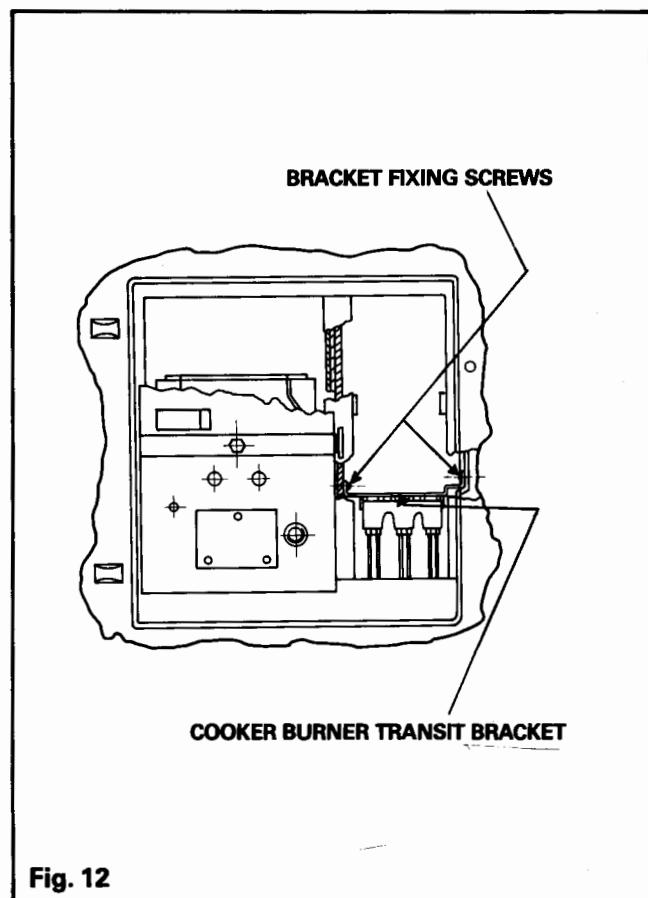

Fig. 12
2. Remove screws securing cooker burner base front transit clamp to combustion chamber base and dispose of clamp – See Fig. 12.